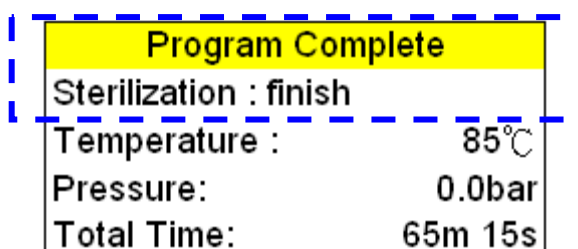

Figure 93- Program Complete
- G. On completion, the buzzer will sound and the Program Complete message is displayed as shown in Figure 93- Program Complete.